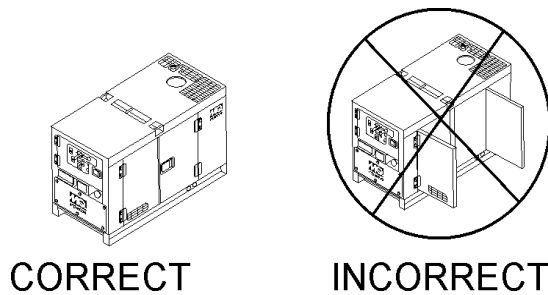

Figure 20. Engine Enclosure Doors
4. Close all engine enclosure doors (Figure 20).